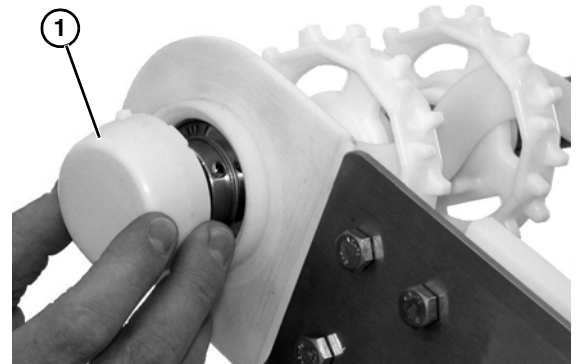

Figure 36
3. Remove bearing cover (Figure 36, item 1).